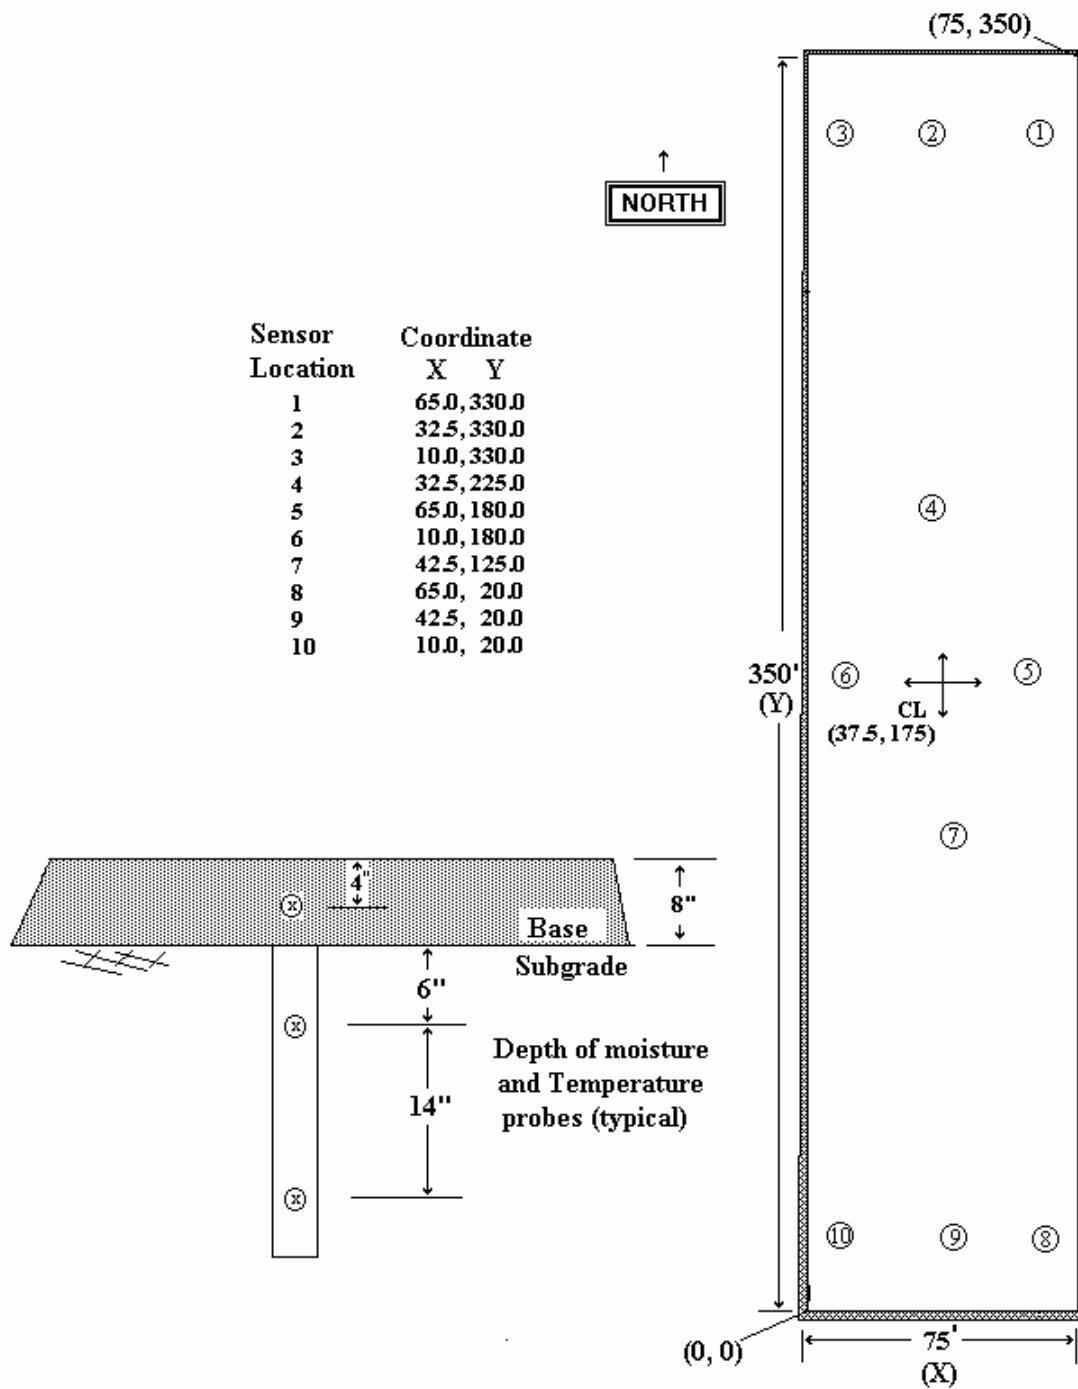

Figure 2.
1. After a large number of applications (approximately 320,000 axles), data will be collected as usual, except for the MDD and FWD. A summary of the data collection plan is shown in Figure 2.